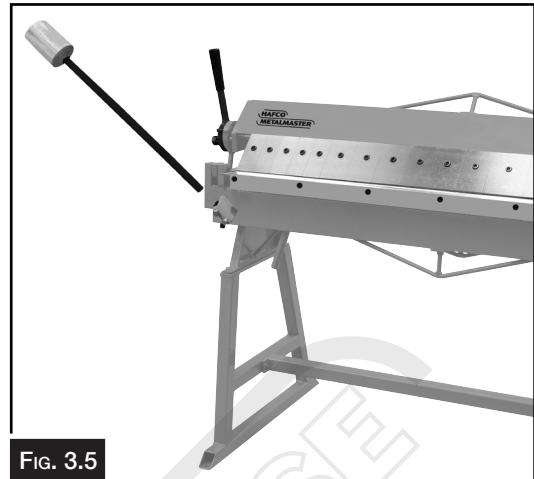

FIG. 3.5
1. With the help of another person lift the counter weight up and insert it into the location hole. (Fig. 3.5)